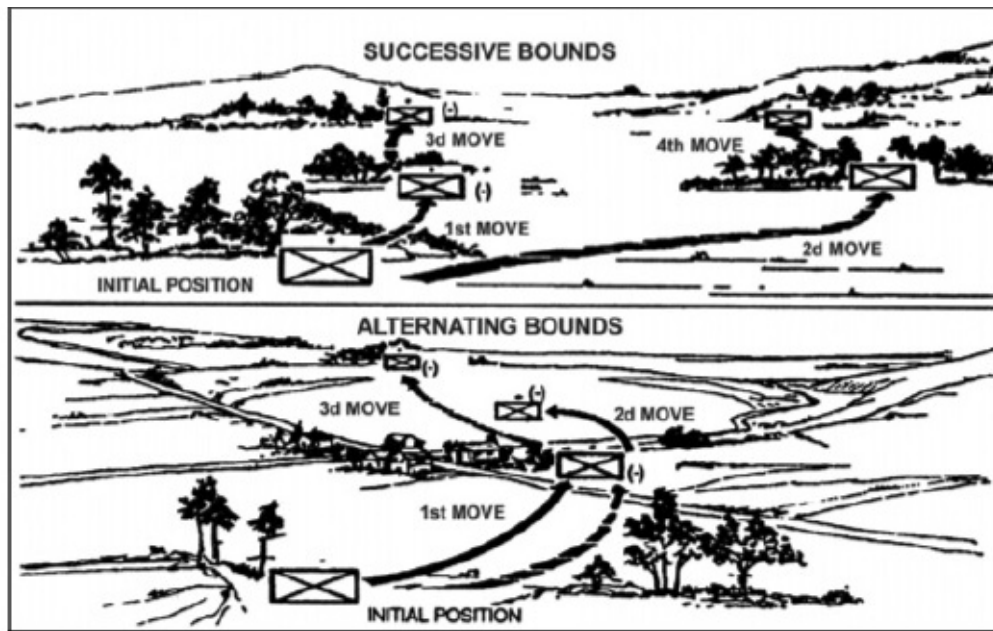

Figure 2-2. Squad bounding Overwatch
(1) In platoon traveling overwatch, the lead squad must be far enough ahead of the rest of the platoon to detect or engage any enemy before the enemy observes or fires on the main body. However, it must be close enough to be supported by the platoon's small arm's fires. This is normally between 50 to 100 meters, depending on terrain, vegetation, and light and weather conditions.
(2) In a column formation, only the lead squad should use the traveling overwatch; however, if greater dispersion is desired, all squads may use it.
(3) In other formations, all squads use traveling overwatch unless the platoon leader specifies otherwise.
(4) Traveling overwatch has the following characteristics:
- g. **Bounding Overwatch.** In the bounding overwatch technique (Figure 2-2), the distance between men remains about 20 meters. The distance between teams and squads varies.
- (1) The squad or platoon has a bounding element and an overwatch element. The bounding element moves while the overwatch element occupies an overwatch position that can cover the route of the bounding element by fire. Each bound is within supporting range of the overwatch element.
- (2) There are two types of bounding, successive and alternating (Figure 2-2). Successive is nothing more than one squad moving to a position, then the overwatching squad moving to a position generally online with the first squad. Alternating bounding is when one squad moves into position, then the overwatching squad moves to a position in front of the first squad.
- (3) The length of a bound depends on the terrain, visibility, and control.
- (4) Before a bound, the leader gives the following instructions to his subordinates:
- (5) The characteristics of bounding overwatch are: